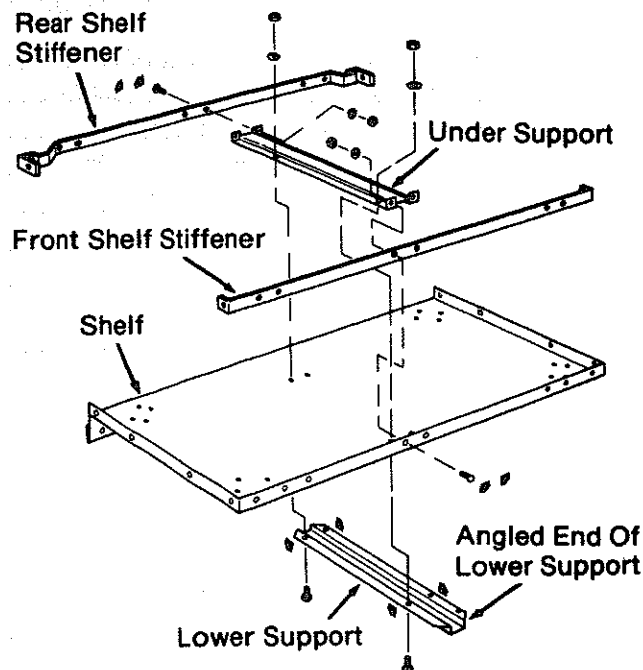

Fig. 18
1. Turn the *shelf* upside down on the floor. The wide edge should point down, and the three narrow edges should point up. (Figure 18)
2. Place the *front shelf stiffener* inside and against the front edge of the *shelf* so that all six holes line up. (Figure 18)
3. Place the *under support* on the *shelf*, so that the two holes on one end line up with the center holes on the other two parts. (Figure 18)
4. Place the *lower support* under the shelf. It should rest directly below the *under support*, with the angled end sticking out. Line up the four holes in these three pieces. (Figure 18)
5. Place the *rear shelf stiffener* on the *shelf* so that the two ends fit between the edges of the *shelf*, and the two center holes line up with the holes at the end of the *under support*. (Figure 18)